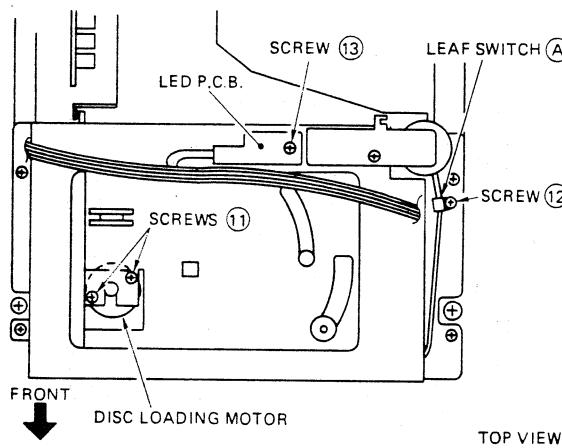

Fig. 7
- 2) Remove 2 screws ⑪ and remove the motor from the bottom of the unit. (Fig. 7)
- 1) Remove screw ⑫ and remove leaf switch A.
- 2) Remove screw ⑬ and remove the LED P.C.B. (Fig. 7)